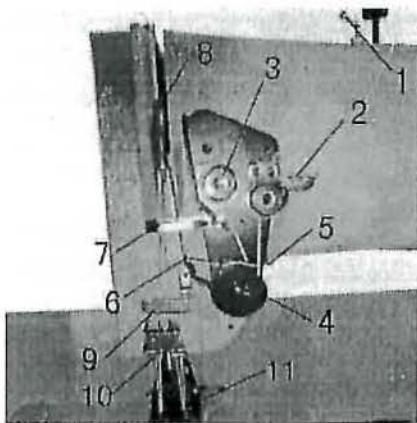

Fig.11
8.THREADING THE NEEDLE (Figs.11&12)